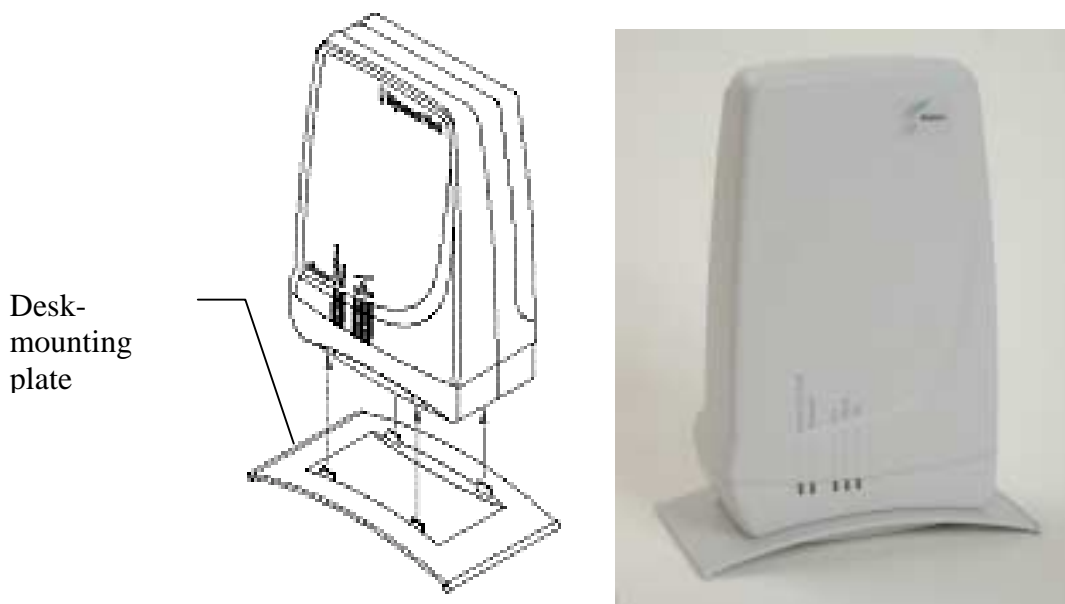

Figure 10-3: IDR vertical desk mounting
- Insert the IDR into the base and press firmly until the tabs click into place. See Figure 10-3.